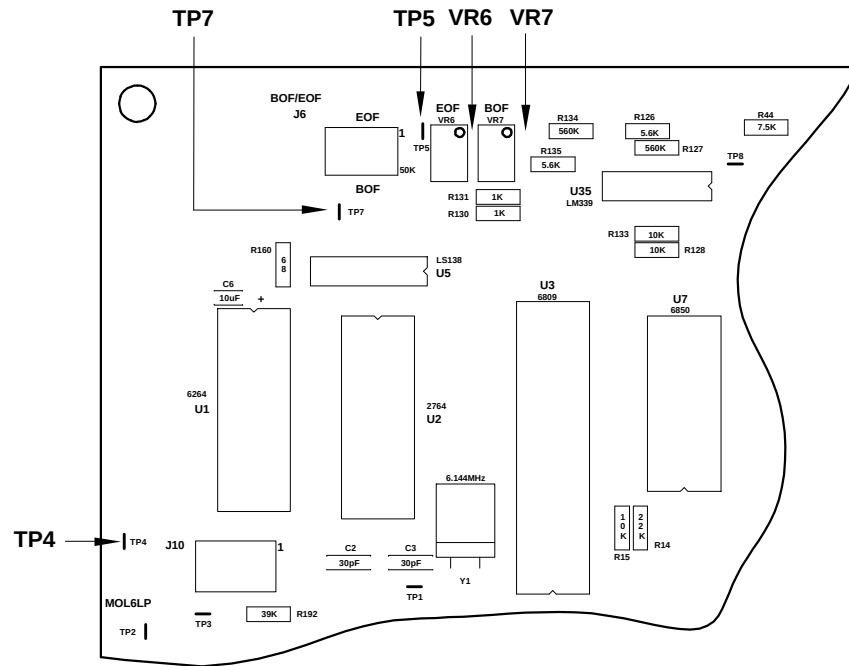

Figure 6.1: BOF and EOF Adjustments
1. Connect an oscilloscope or voltmeter to test point TP7, using TP4 as a ground reference. (See Figure 6.1.) If using an oscilloscope, set it for 1 millisecond per division horizontally and 1.0 volts per division vertically. Set the trigger to automatic. If using a voltmeter, set the scale to 20 Volts.